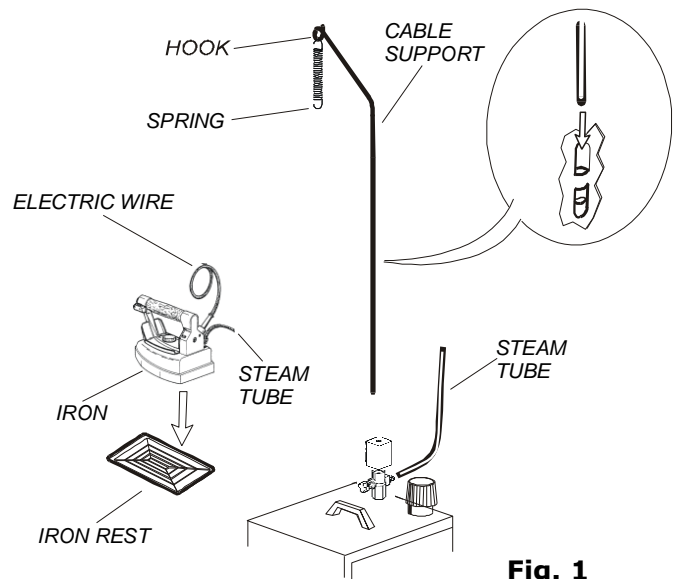

Fig. 1
For the transport and the displacement, seize the generator only by the handle, never pull its electric cables (fig. 1).
2. Remove SATURNINO from the box, mount the two pieces of the cable support and insert it deep into the special support holder (fig. 1) placed on the back side of the generator.
4. Place the iron rest on the ironing table and put the iron on its rubber iron rest (fig. 1).
- During ironing operation, always put the iron on its rubber rest (fig. 1) and pay attention to the position of the wires: if they twine or get in touch with ironing board, they might cause short circuits.